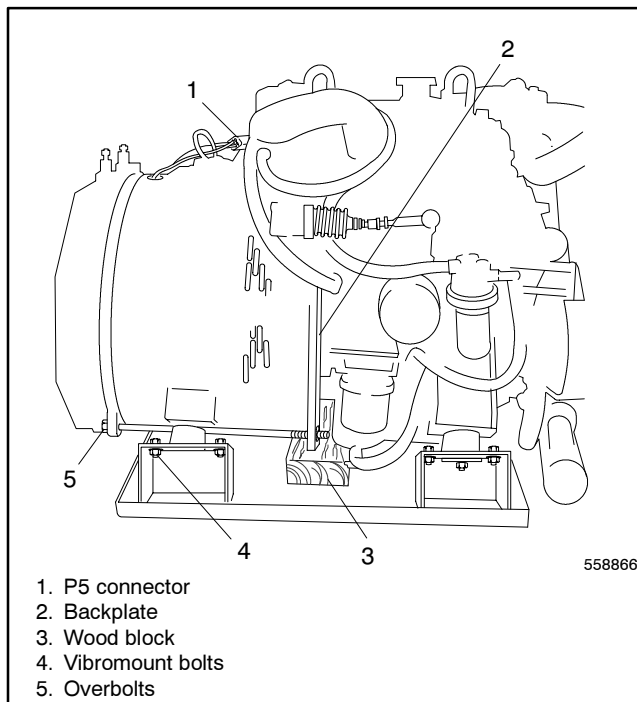

Figure 9-5 Supporting the Generator
16. Remove the two vibromount bolts. See Figure 9-5.
17. Raise the alternator end and place a wood block under the locator plate. Lower the alternator until the wood block supports the locator plate. See Figure 9-5.
18. Remove the four overbolts from the end bracket. See Figure 9-5.